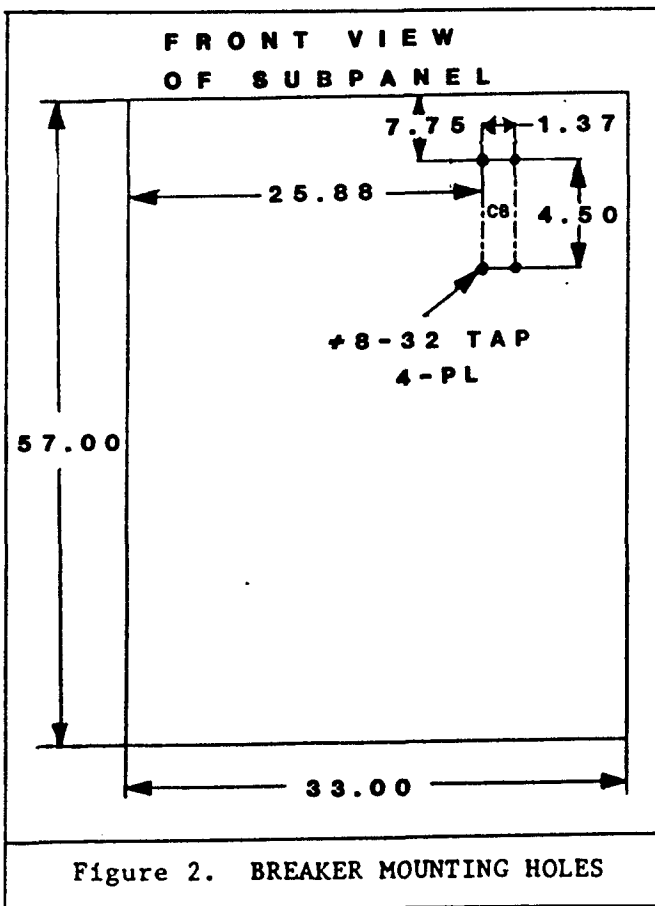

Figure 2. BREAKER MOUNTING HOLES
2. Drill and tap four circuit breaker mounting holes into subpanel located in enclosure. See Figure 2.